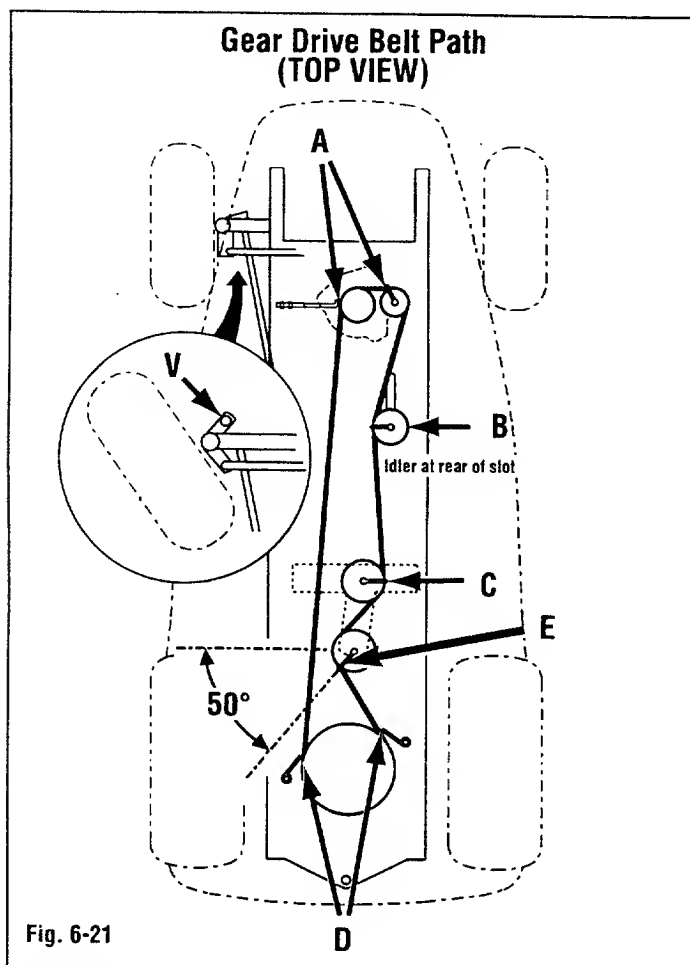

Fig. 6-21
- Route belt around sheaves as shown in Fig. 6-21.
- Adjust belt guides (A, Fig. 6-21) 1/16" to 1/8" away from belt. Secure guides (A).
- Adjust belt guide (B) so it is pointing straight to the left of the unit as shown in Fig. 6-21. Secure guide (B). **NOTE: Adjust Idler all the way to the rear in slot.**
- Adjust belt guide (C) so it is pointing straight to the right of the unit as shown in Fig. 6-21. Secure guide (C).
- Adjust belt guides (D) 1/16" to 1/8" away from belt. Secure guides (D).
- Adjust belt guide (E) so it is pointing 50° back from straight left, as shown in Fig. 6-21. Secure guide (E).